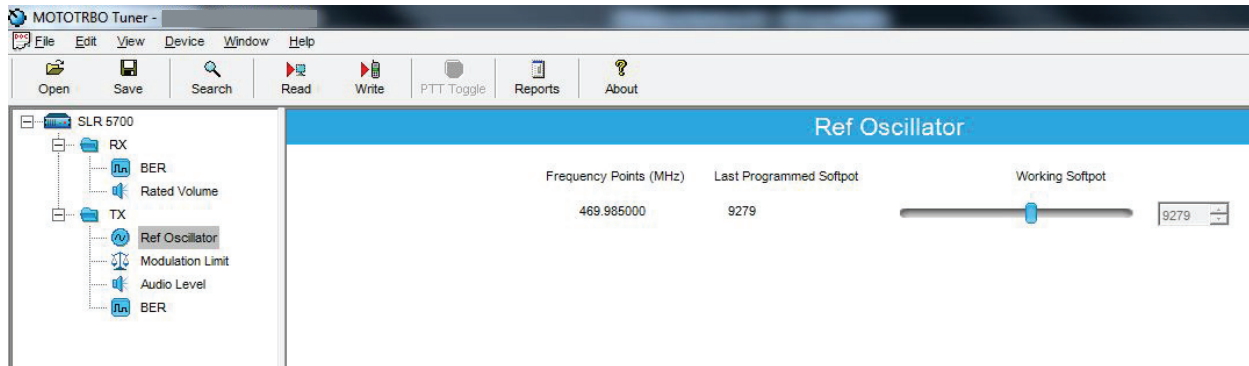

Figure 10-4 Tx Menu Tree (Ref. Oscillator)
4. Select "Ref Oscillator" under the TX menu in the tree view (See Figure 10-4).